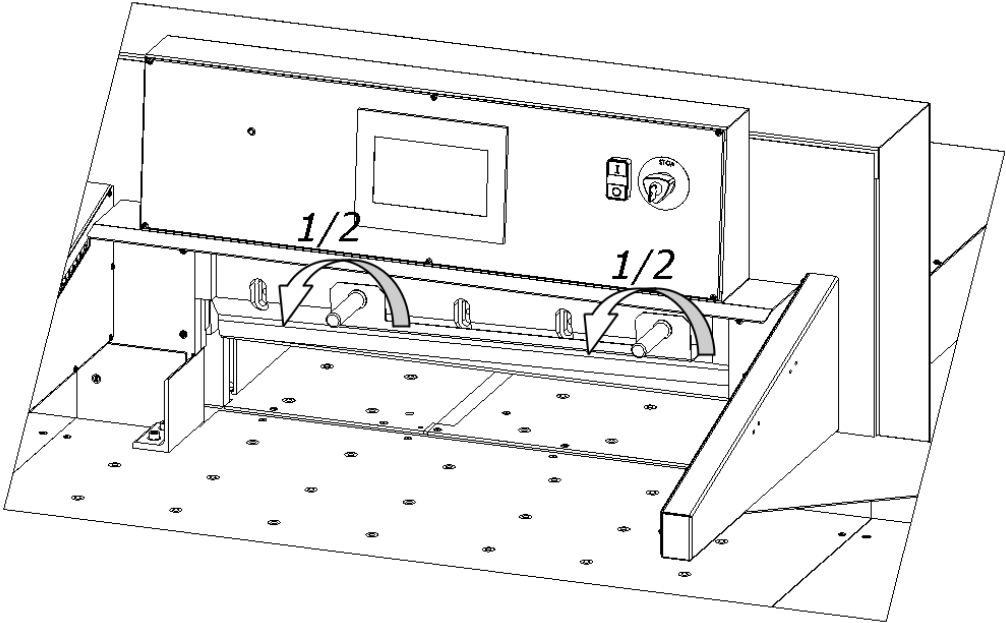
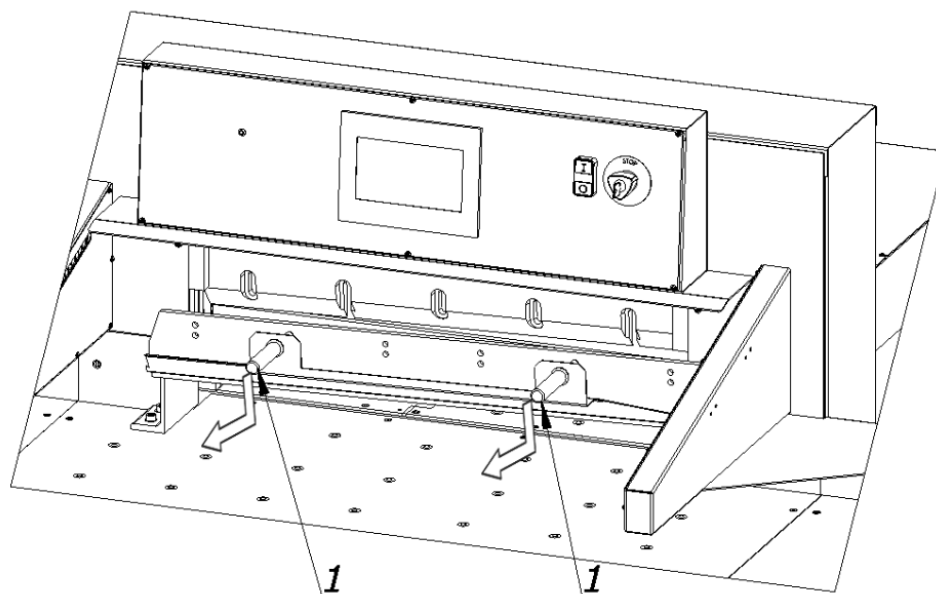
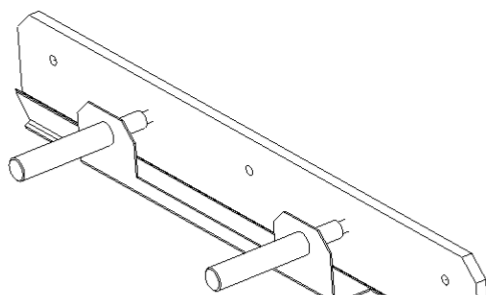

Figure 27
Figure 28
Figure. 29a Knife in the transport handle
8.1.1.13 holding the transport handles release the clamp by turning them 1/2 turn at a time to the left (fig 27) and carefully pull the knife down (fig 28). Take the removed knife into the special protective packaging (Fig. 29a - 29d.) With the blade inwards and fasten it with two screws. To unscrew the bolts fixing the blade knife, use the RWTg 8 wrench provided on the cutter.
8.1.2.2. Remove the knife from the packaging (Fig.29a - 29d)